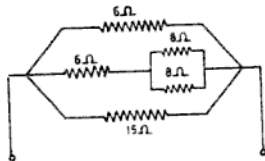

Fig. NE 3.22
- 3.22 Calculate the equivalent resistance of the circuit shown in Fig. NE 3.22. (Ans. 3 Ω)